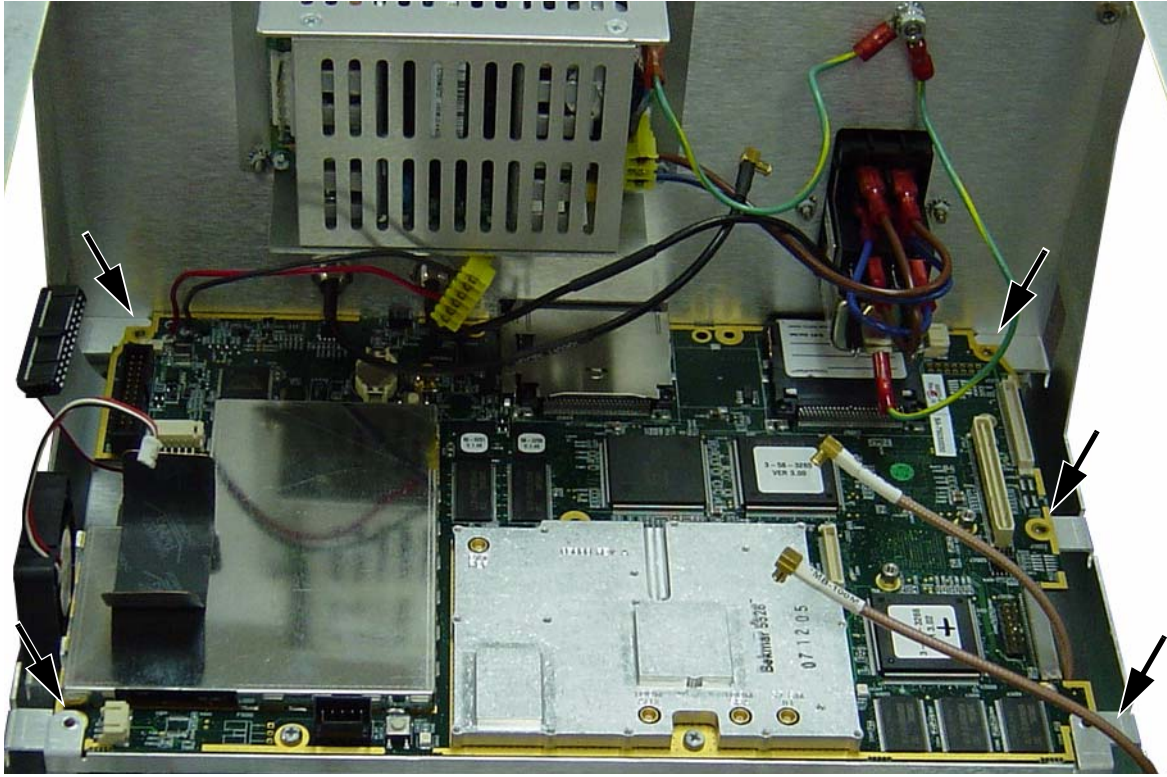

Figure 5-42. Main PCB Mounting Screws – Left and Right Edges
3. Remove the 5 screws around the edge of the Main PCB, as shown in Figure 5-42, to release the board from the chassis.